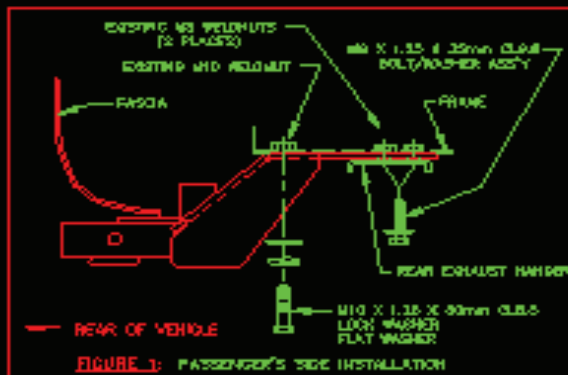

FIGURE 1: PASSENGER'S SIDE INSTALLATION
INSTALL M10 BOLT, LOCK WASHER AND FLAT WASHER AS SHOWN IN FIGURE 1. INSTALL TWO (2) M8 BOLT/WASHER ASSEMBLIES THROUGH REAR EXHAUST HANGER AND HITCH AS SHOWN IN FIGURE 1.